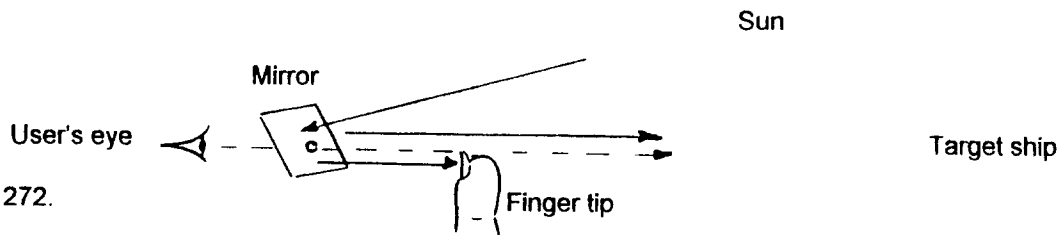

Fig. 272.
6. **Signalling Mirror.** A signalling mirror is a shiny metal plate with a small hole through it so it can be used to 'aim' the reflected sun's rays at a passing vessel to attract attention. See Fig. 272.